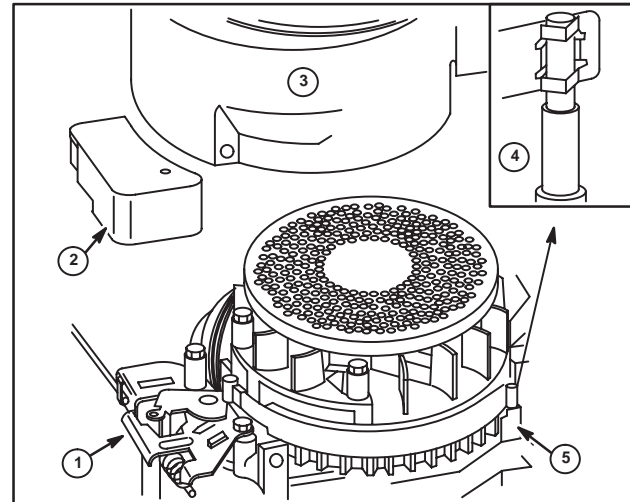
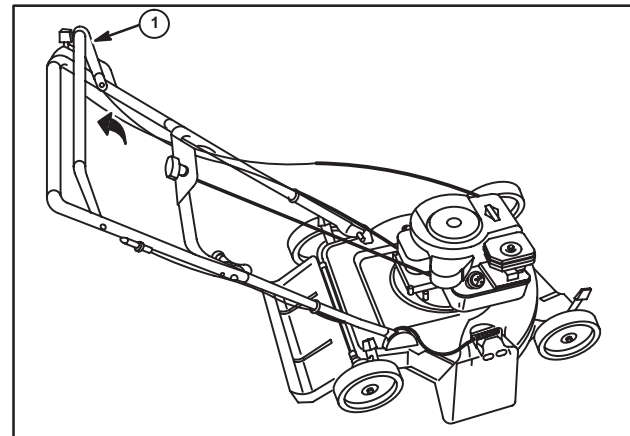

Fig. 116
Fig. 117
System 3® and 4® engines are equipped with the band brake feature, Fig. 116. The band brake **MUST STOP** the engine (cutter blade) within **three seconds after operator releases equipment** safety control, Fig. 117.
- b. Anchor post (5) or alternate type – inset (4) misaligned or bent.
- d. Control bracket lever (1) rivet worn or loose. (Check ignition system as noted in Section 2.)
- e. Control bracket (1) misadjusted.
- f. Equipment controls (1) damaged, Fig. 117.
2. Loosen cable clamp screw and remove cable from control lever, Fig. 116.
1. Remove blower housing and rotating screen, Fig. 116.